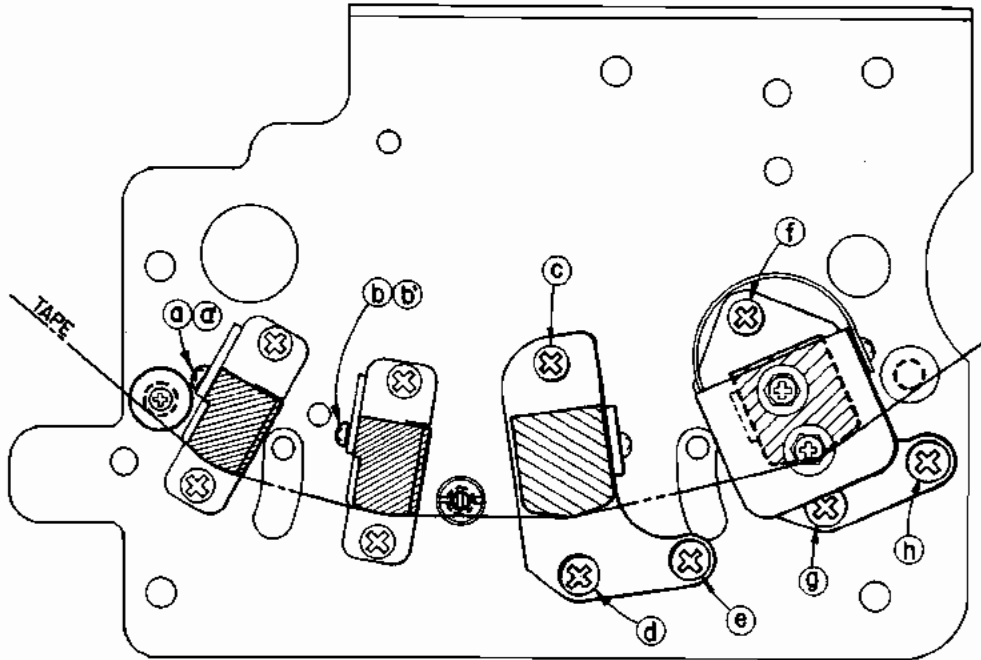

Fig. 17
A. Adjustment of Head Height (See Figs. 17 and 18)
B. Adjustment of Head Slant (See Figs. 17 and 18)
C. Adjustment of Head Azimuth (See Figs. 17 and 18)